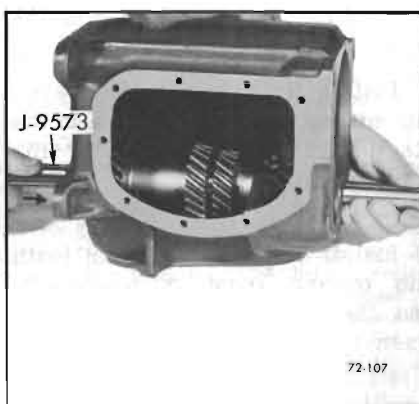

Figure 72-107—Removing Countershaft
shaft. Remove two (2) tanged bronze thrust washers. See Figure 72-107.